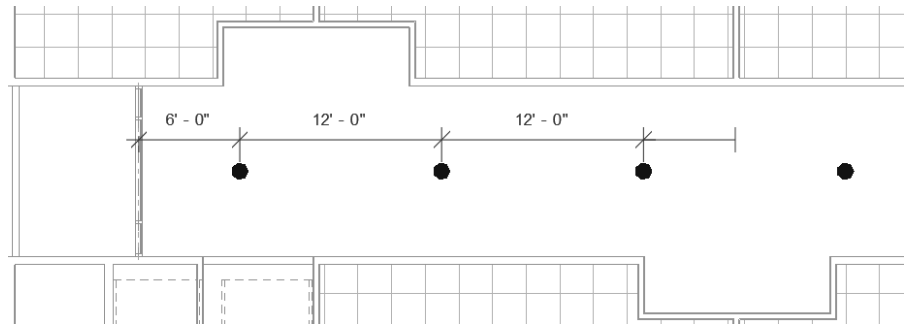

Figure 2–7
- When you are using dimensions in a model, you can set a string of dimensions so that they are equal. Doing this updates the model elements, such as the location of sprinklers shown in Figure 2–8.